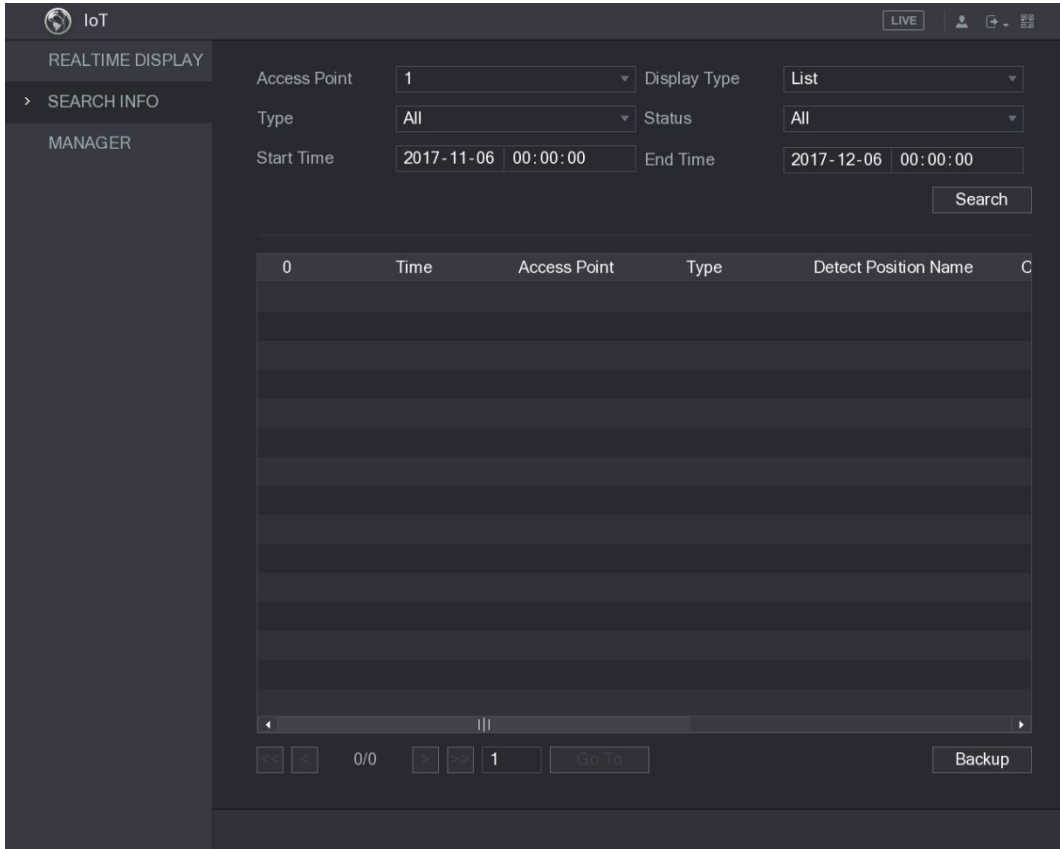

Figure 5-159
Step 1 On the main interface, click **IoT > SEARCH INFO**. See Figure 5-159.